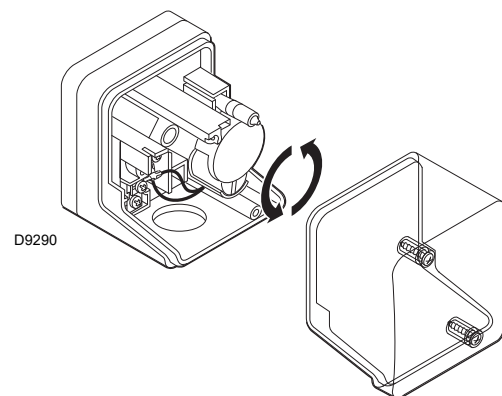

Fig. 50
- Adjust the min gas pressure switch (Fig. 50 at page 44) to the start of the scale.
Adjust the minimum gas pressure switch (Fig. 50) after having adjusted the burner, the gas valves and the gas train stabiliser. With the burner operating at maximum output: